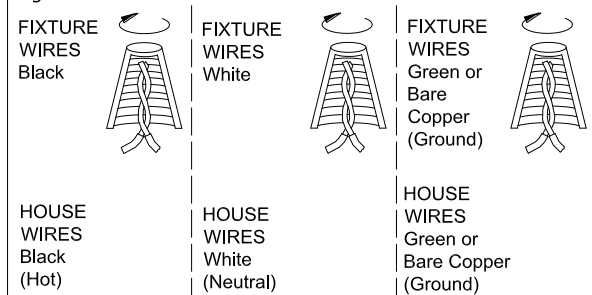

Fig.3
9. The ballast in each of these models can be replaced by a qualified electrician without cutting of wires and without damage to the housing, trim, decorative elements or carpentry to which the fixture is attached. See installation steps for more detail. The ballast and lamp are combined, to replace or install, twist pins into socket as shown on Fig.3.